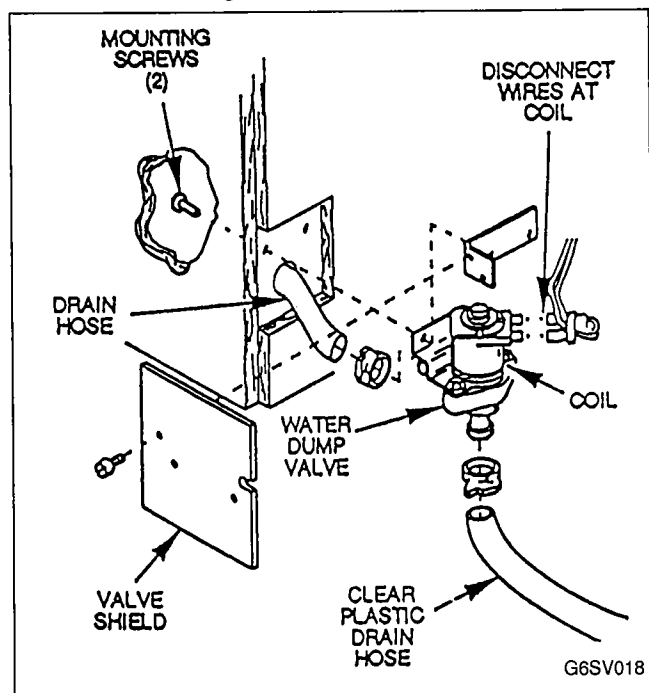

FIGURE 18. WATER DUMP VALVE REMOVAL
3. Check clear plastic outlet drain hose of dump valve, Figure 18, for leakage while the ice machine is in the freeze cycle.
## REMOVE WATER DUMP VALVE (Figure 18)